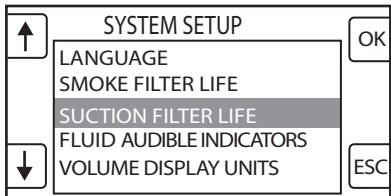

Figure 11 System Setup Screen
- 5. From the System Setup screen, push the buttons next to the arrow icons to highlight the appropriate system setting (see figure 11).